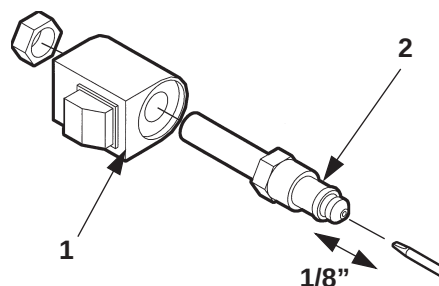

FIG. 54-2
4. Check the Valve Stem by removing the Coil Assembly (**Item 1, FIG. 54-2**). With platform supported, unscrew the Valve Stem (**Item 2, FIG. 54-2**) from the Pump. Push on the plunger located inside the Valve Stem by inserting a small screwdriver blade in the end. If the Plunger does not move freely (approximately 1/8") replace the Valve Stem.